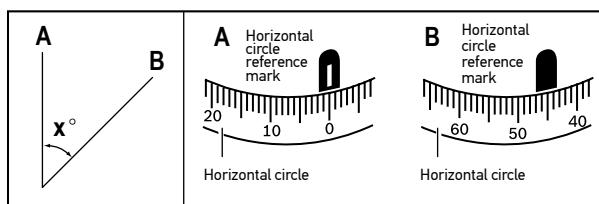

Figure 6
- Focus the device on the rod A. Rotate the horizontal circle (2) until the "0" mark is aligned with the reference mark (3) (fig. 6).
- Focus the device on the rod B. Record the angle measurement of the reference mark (3) of the horizontal circle (Fig. 6).
The angle value in Figure 6 is 45° .